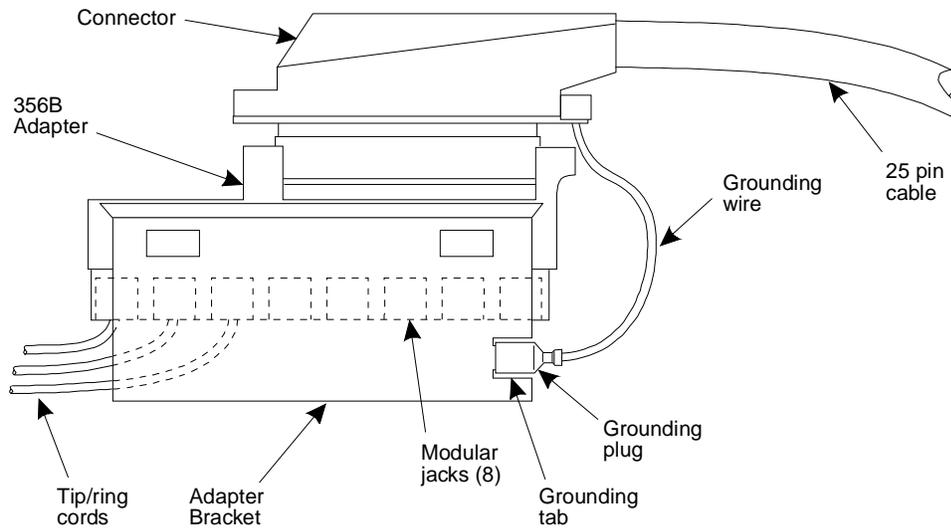

Figure 8-1. Assembly of the MAP/100 Tip/Ring Distribution Hardware
The Tip/Ring distribution hardware with the 356B adapter (Figure 8-1) comes in a kit which consists of:
8. Plug the 3-foot, 6-pin modular cords from the T/R cards into the 356B adapters. Each adapter can accommodate eight modular cords (Figure 8-1).